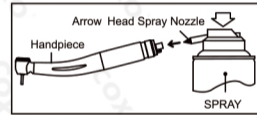

Fig. 17
- 1) ① Direct-Connect Type: Remove the handpiece from the hose,
- ② Quick Coupling Type: Disconnect the handle from the quick connector.
- 3) Mount the Tip Nozzle into the spray can port (Fig. 17)